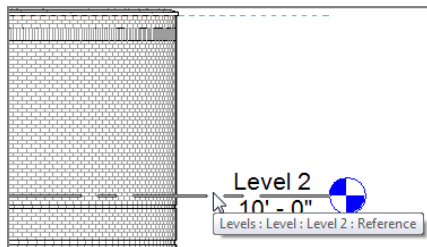

FIGURE 3.6: Waiting for the alignment to appear
6. When you see the blue line appear above Level 2, pick the Level 2 line, as shown in Figure 3.6.